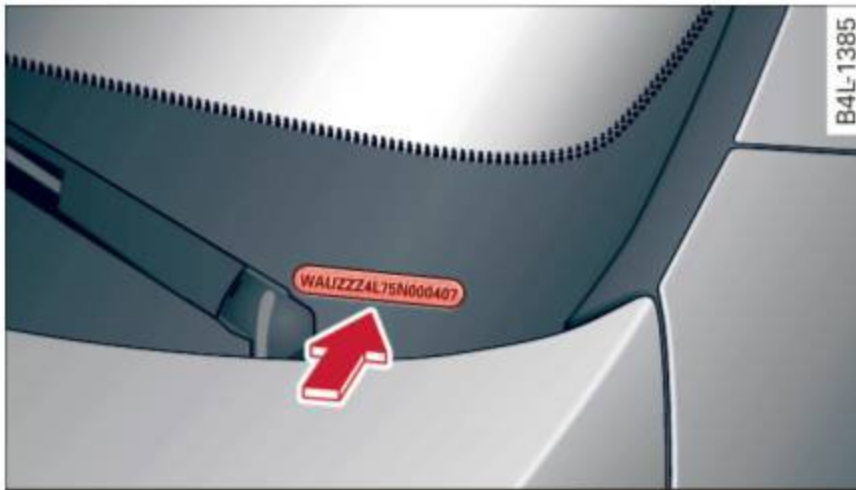

Fig. 194 Vehicle Identification Number (VIN) plate: location on driver's side dash panel
- under the windshield on the driver's side ⇒ *fig. 194*.